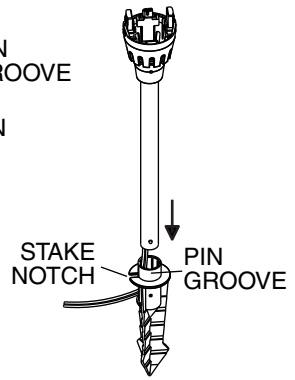

Fig. 9
4. Pull fixture wiring completely through notch in ground stake. Push metal fixture stem into ground stake by aligning pin in stem with groove in ground stake. Press firmly until you hear a click. (Fig. 9)